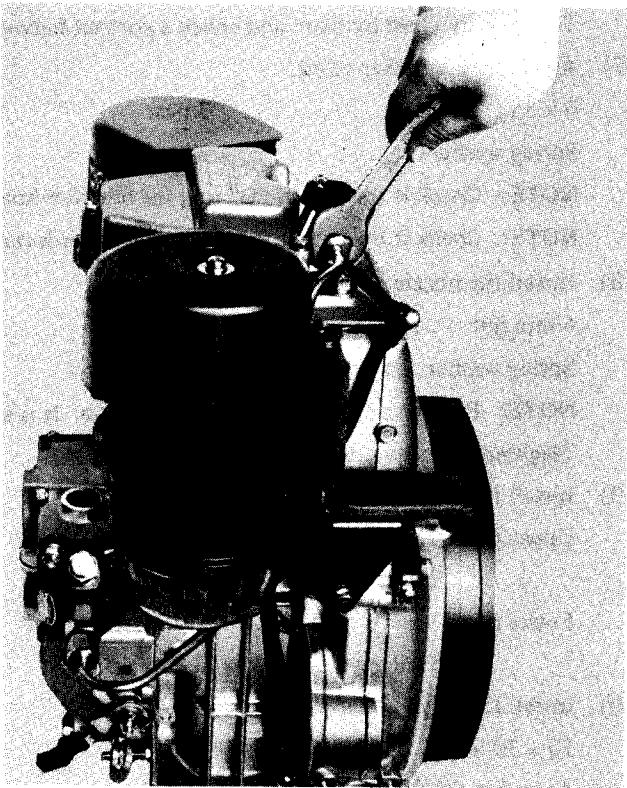

Fig. 52
- 27) Connect the high pressure pipe. (See Fig. 52.)